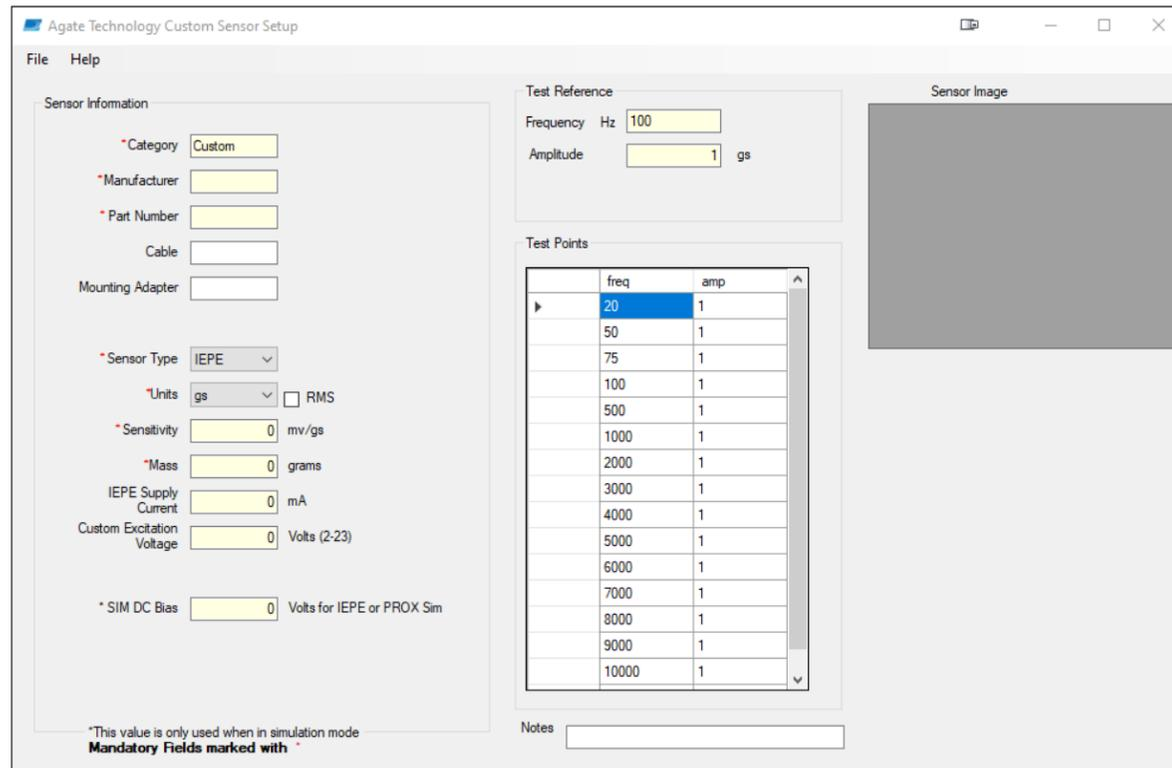

Figure 75. Custom sensor software setup screen
1. Open the Sensor Setup application (saved on the USB memory drive), on your computer (Figure 75).